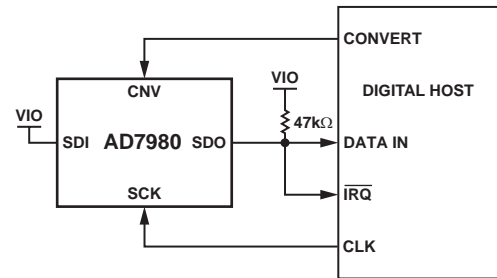
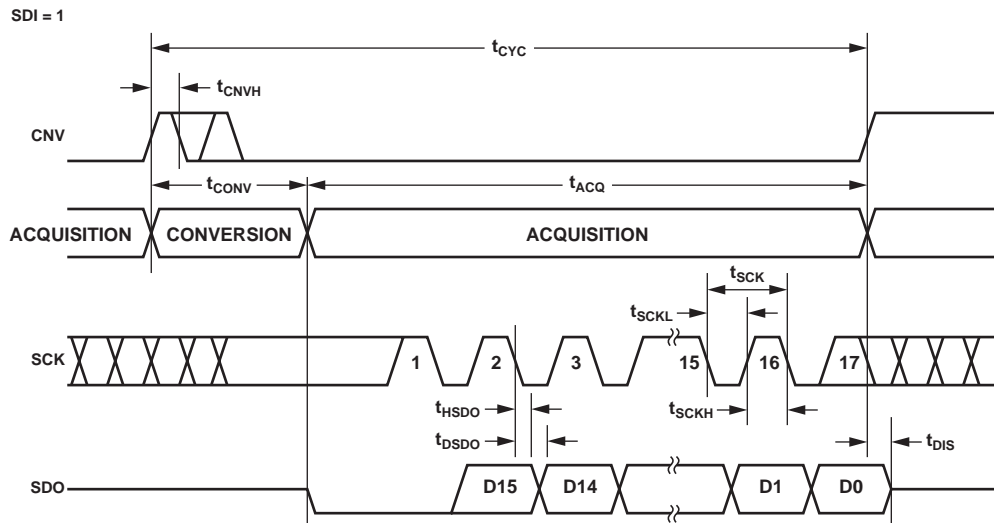
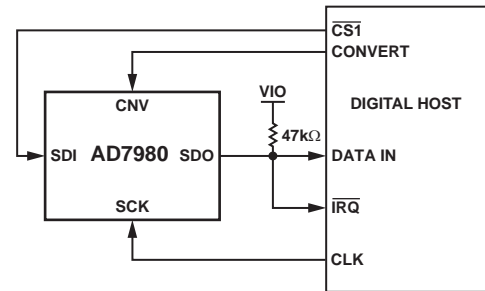
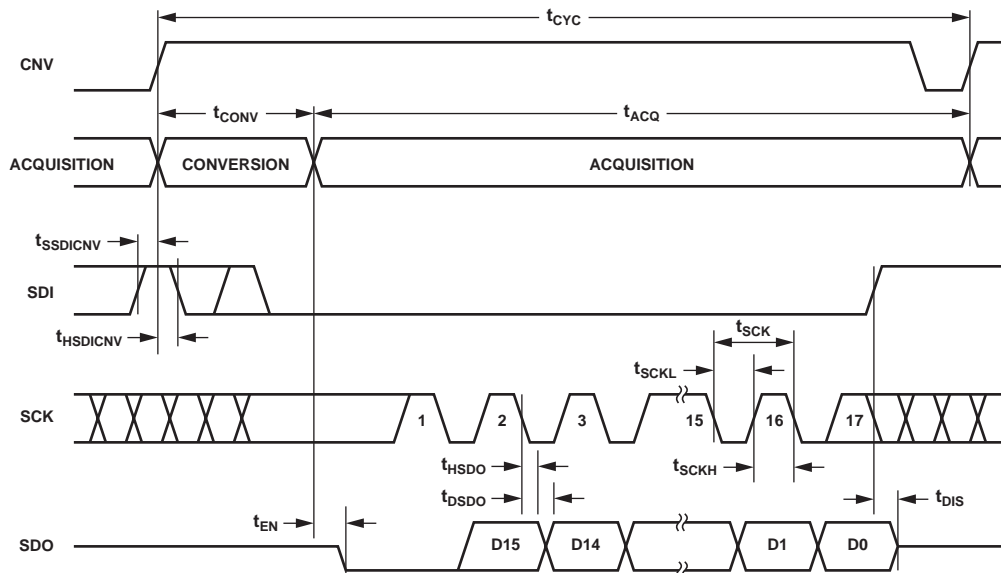

Figure 17.  $\overline{\text{CS}}$  Mode 3-Wire with BUSY Indicator Connection Diagram (SDI High)
Figure 18.  $\overline{\text{CS}}$  Mode 3-Wire with BUSY Indicator Serial Interface Timing (SDI High)
Figure 21.  $\overline{CS}$  Mode 4-Wire with BUSY Indicator Connection Diagram
Figure 22.  $\overline{CS}$  Mode 4-Wire with BUSY Indicator Serial Interface Timing
- In the  $\overline{\text{CS}}$  mode, if CNV or SDI is low when the ADC conversion ends (Figure 18 and Figure 22).
The connection diagram is shown in Figure 17 and the corresponding timing is given in Figure 18.
The connection diagram is shown in Figure 21 and the corresponding timing is given in Figure 22.